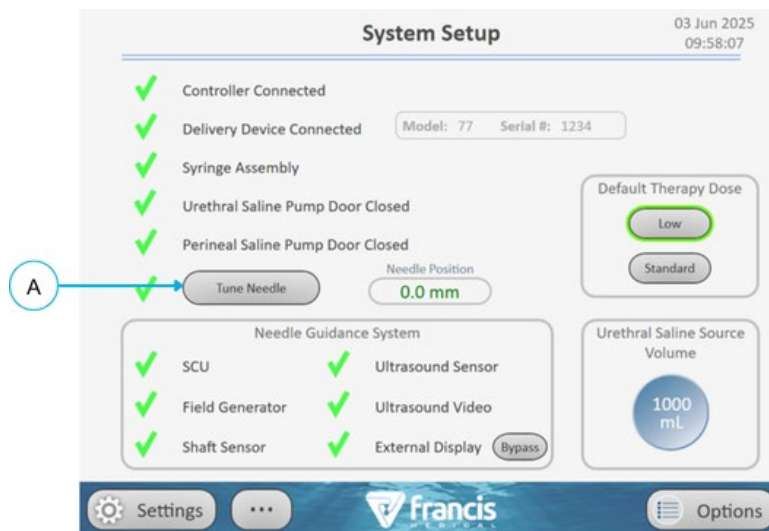

Figure 11-9: Tune Needle
3. Select **[Tune Needle]** on the Generator screen (**Figure 11-9**).